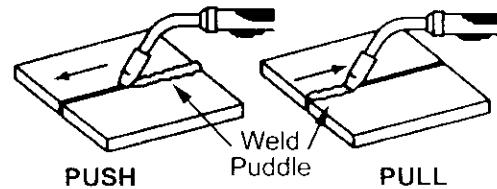

Figure 9. Gun Travel Direction
**1. TRAVEL DIRECTION** is the direction the gun is moved along the weld joint in relation to the weld puddle. The gun is either PUSHED (see Figure 9) into the weld puddle or PULLED away from the weld puddle.